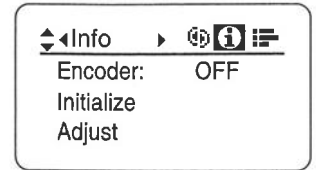

Fig7-3
2. Push the Set key and move the left or right key to display the Info screen. (Fig.7-3)